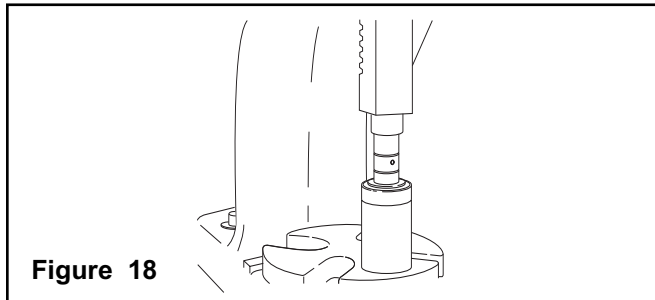

Figure 18
2. Place the Crankshaft in the Bearing and use the arbor press ram to press the Crankshaft through the Bearing until the Retaining Ring can be installed in the second groove of the Crankshaft (See Figure 18).